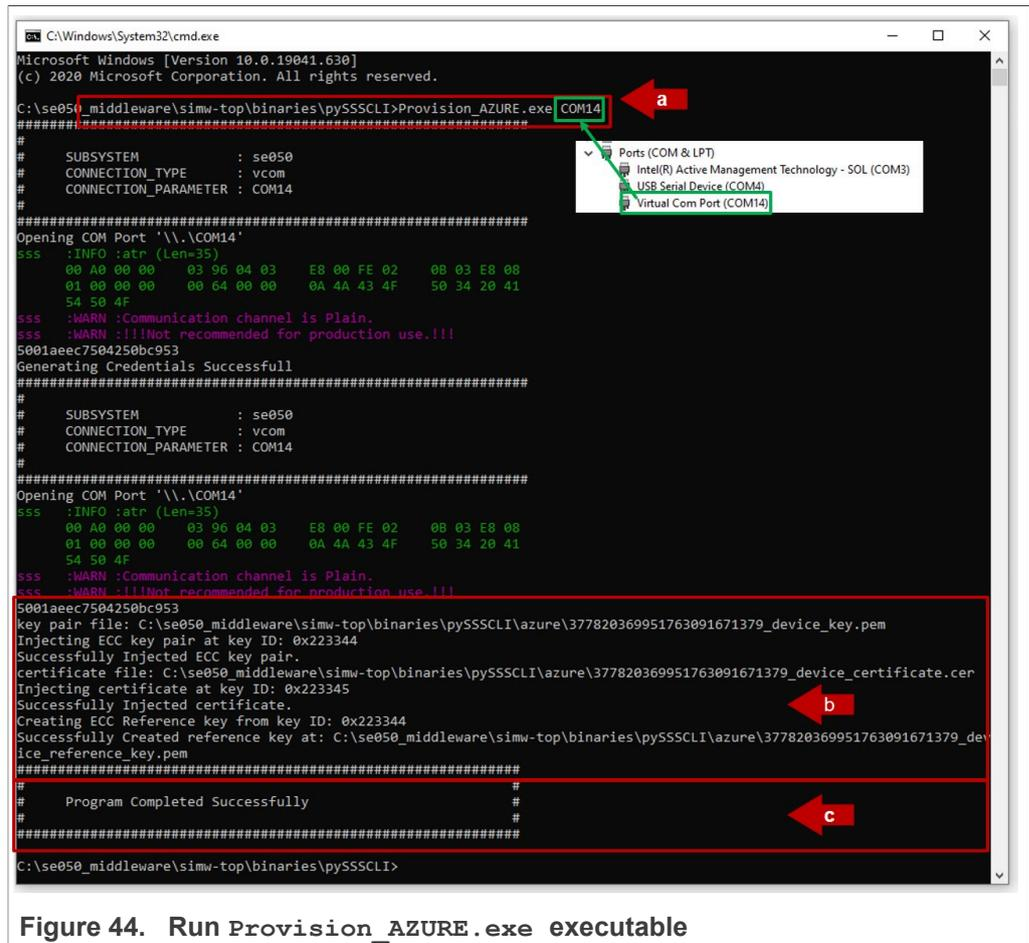

Figure 44. Run Provision_AZURE.exe executable
- 4. Use the Provision_AZURE.exe executable to generate and inject keys into your EdgeLock SE05x. Go to the folder simw-top\binaries\pySSCLI and follow the steps shown in Figure 44: